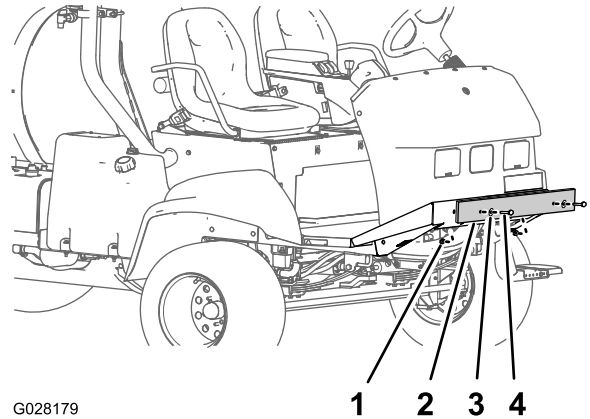

Figure 4
1. Remove the bolts, washers, and nuts that secure the shipping bumper to the front chassis plate (Figure 4).
2. Remove the shipping bumper from the machine (Figure 4).